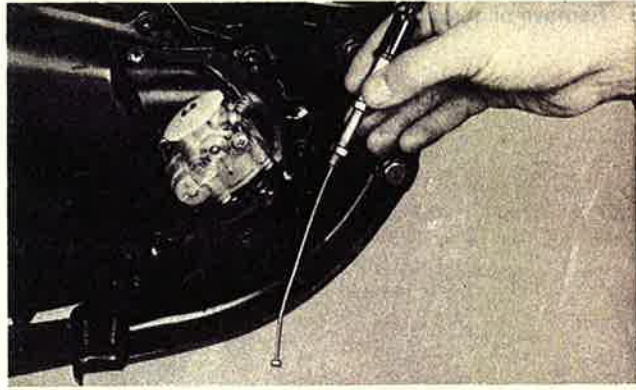

Fig. 3-1-11
6. Loosen wire adjuster lock nut and remove adjustor and wire complete. (Fig. 3-1-11)